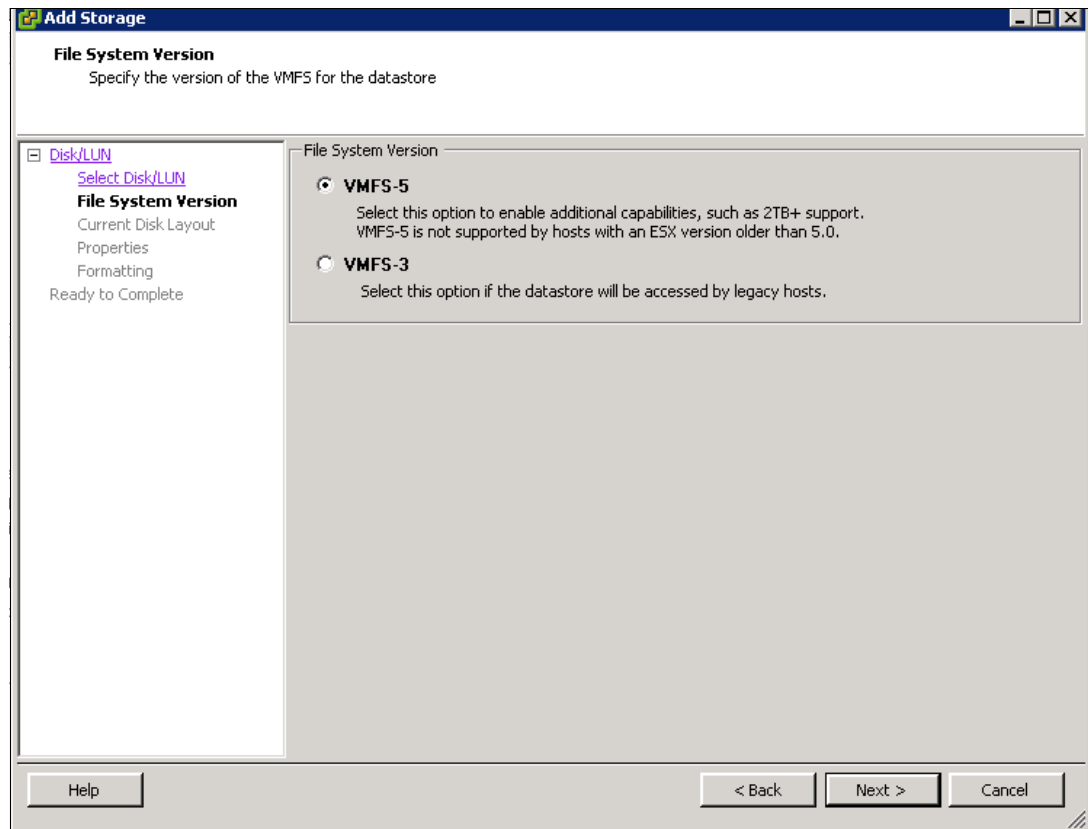

Figure 5-87 Select File System Version
9. Select a File System Version option. In our example, we selected **VMFS-5**, as shown in Figure 5-87.